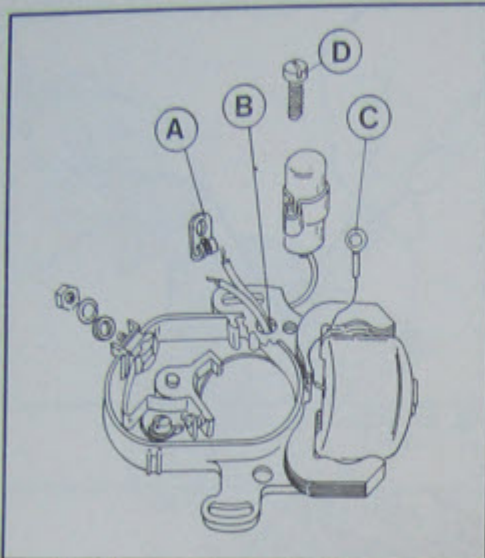

Fig. 21 Disconnecting coil wires
- Disconnect all leads and unsolder tab A (Fig. 21).
Condenser replacement (Fig. 21)
NOTE - During soldering operations remove tab from screw in order to prevent damage to insulator A (Fig. 21).